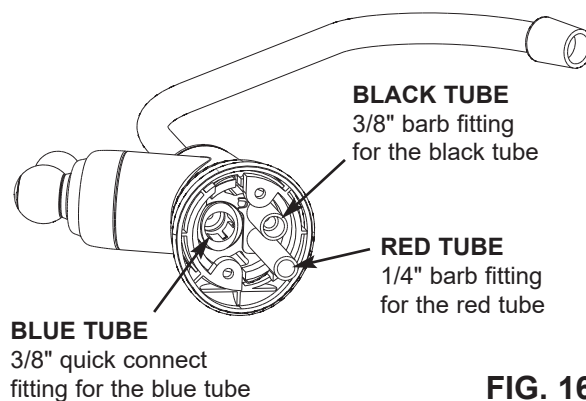

FIG. 16
- C. Insert all the way onto the 1/4" faucet barb fitting on faucet. See Figs. 16, 19 & 20.